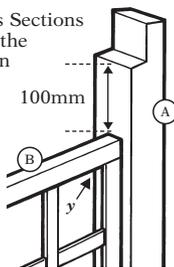

Fig 2.
4. Take one of the Side Trellis Sections (B) and two Posts (A). Fix the trellis to the posts as shown in Fig.2. using screws (y).